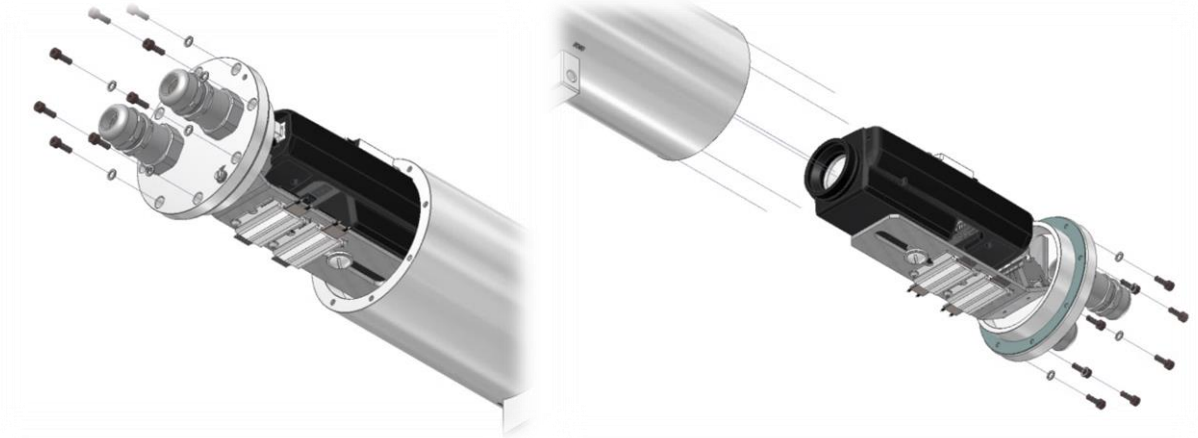

Fig. 6-4: Opening the ExCam T08-VAx.x.x.x camera
- Carefully pull out the cable and supply flange to the rear and strictly vertically/perpendicularly (see Figure 6-4). There is a risk of side tilt! Because of negative pressure it may be difficult to remove the flange.